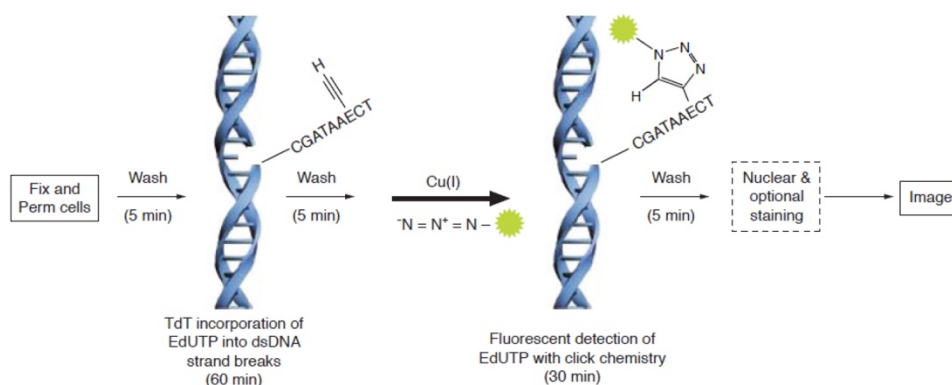

Figure 1. Detection of apoptosis with the iClick™ TUNEL Imaging Assay.
The new iClick™ TUNEL Andy Fluor™ 488 Imaging Assay utilize a dUTP modified with an alkyne, a small, bio-orthogonal functional group that enables the nucleotide to be more readily incorporated by TdT than other modified nucleotides such as biotin-dUTP and fluorescein-dUTP. Detection is based on a click reaction, a copper (I) catalyzed reaction between an azide and alkyne (Figure 1). The small size of the Andy Fluor™ azide (MW ~1,000) compared to that of an antibody (MW ~150,000) enables effortless penetration of complex samples with only mild fixation and permeabilization required. As a result, when compared to assays using other modified nucleotides, the iClick™ TUNEL Imaging Assay is fast (complete within 2 hours) and is able to detect a higher percentage of apoptotic cells under identical conditions.